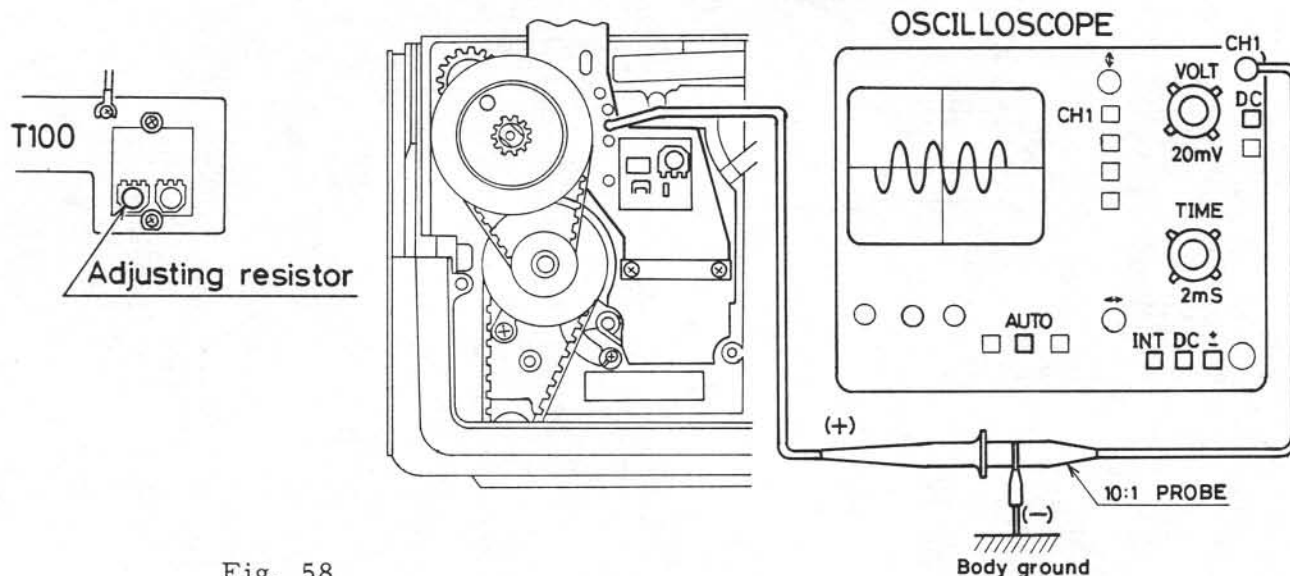

Fig. 58
- 55-5 Connect the body and the Occilloscope as shown in Fig. 58.
- 55-7 Release the shutter. At this time, make sure that the output voltage is displayed on the screen of the Occiloscope as shown in Fig. 58.
- 55-8 The adjustmnet can be made by turning VR as shown in Fig. 58.